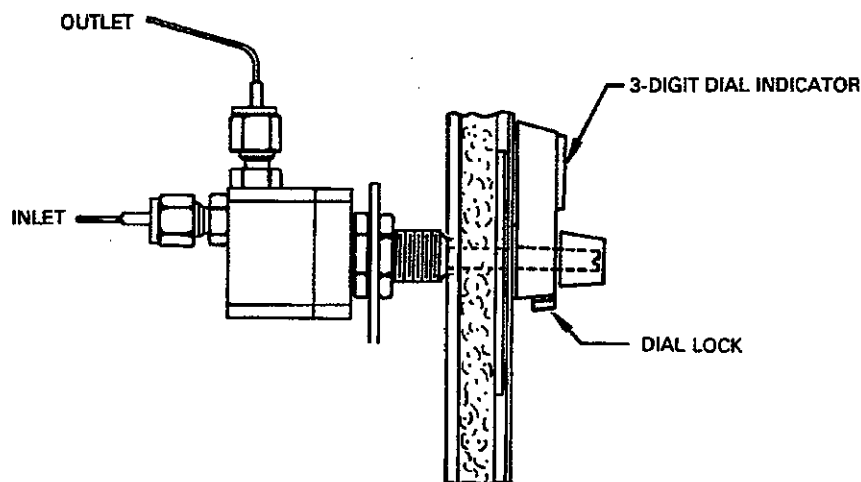

Figure 10 Digital Flow Controller
Before you remove a digital flow controller, lock the dial (see Figure 10) to retain the numbers on the digital dial. Then, remove the flow controller carefully so that the shaft does not turn.
5. If the flow is outside this range, readjust the flow controller shaft and dial so that the dial will indicate the actual flow. Refer to Figure 10. To readjust the flow controller shaft, proceed as follows: